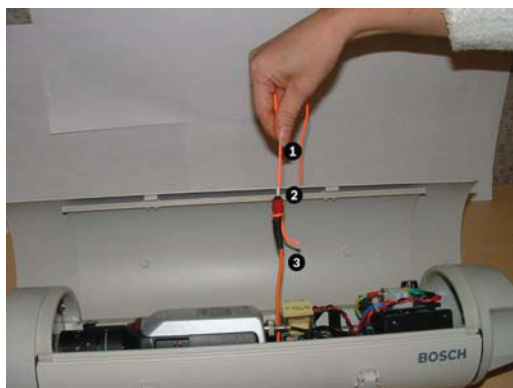

Figure 6.3 Pull the Fiber Optic Cable
unused hole in the mounting foot of the camera housing as shown in *Figure 6.3* on *Page 31*.
6. Attach the end of the string to the Cat5/Cat6 cable and pull it through the mount and the unused hole in the mounting foot of the camera housing. See *Figure 6.3*.